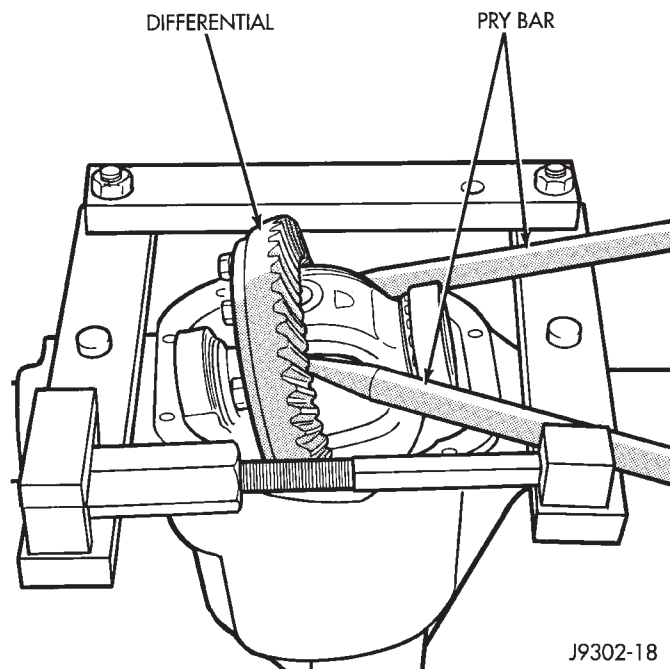

Fig. 28 Differential Removal
(8) Remove the dial indicator.
(9) Pry the differential case loose from the housing. To prevent damage, pivot on housing with the end of the pry bar against spreader (Fig. 28).